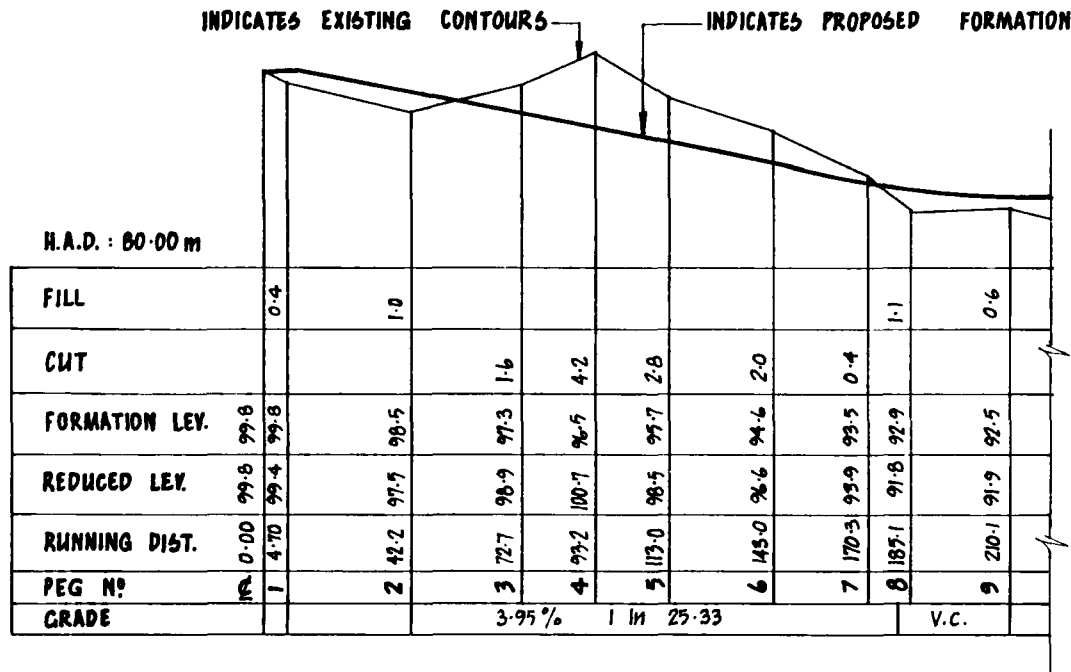

Figure 1 - Typical Longitudinal Section
- Longitudinal Section (usually along the proposed or existing road line) - Figure 1.